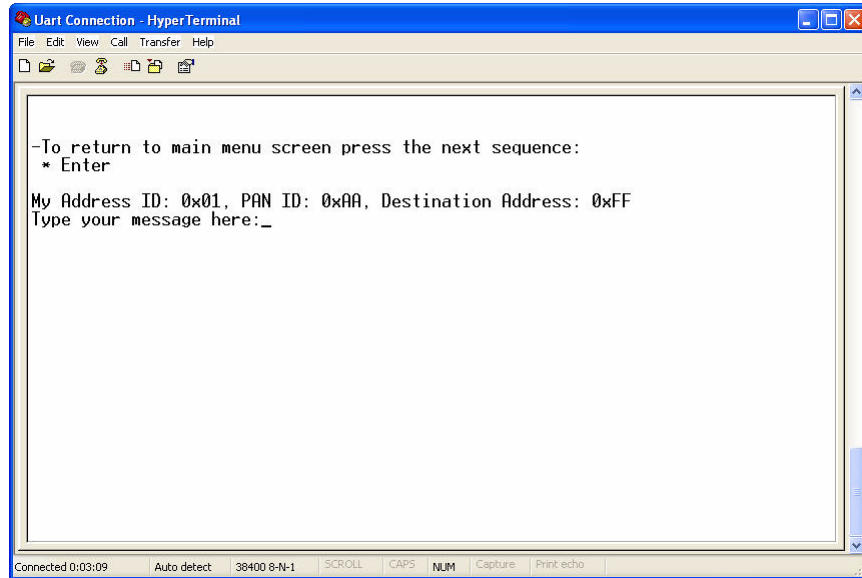

Figure 2-6. Wireless UART Typed Message Screen
4. After a valid value is entered, and users are ready to start sending or receiving messages over the air, press option "4" from the main menu. The screen is cleared and the "typing a message" screen appears as shown in Figure 2-6. This window allows users to send the data that was typed into one Hyper Terminal windows and see all the messages received displayed in the other Hyper Terminal window.
Users can disable the configuration mode so that the application defaults directly to the typing message window (Figure 2-6) with the default values for My Address ID, PAN ID and Destination Address ID already loaded. This option is included for users who do not need to change the ID values.